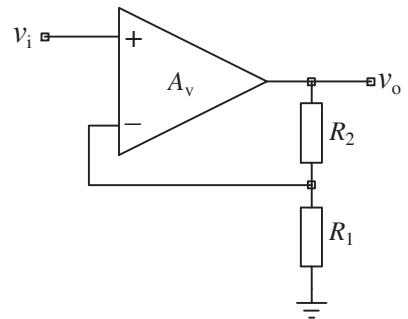

Figure 1
Q1 If $R_2 = 75\text{k}\Omega$ and $R_1 = 15\text{k}\Omega$ and $A_v \Rightarrow \infty$, evaluate the gain of the non-inverting amplifier circuit of figure 1. (6)
Q2 Show that for the circuit of figure 1, the effect of A_v on gain is given by: